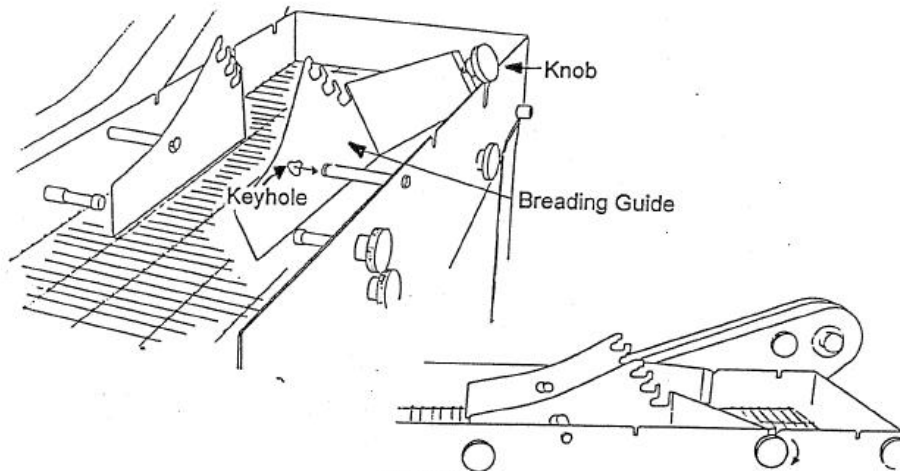

Figure 5
6.2.3 Breading Guide Installation (See Figure 5)